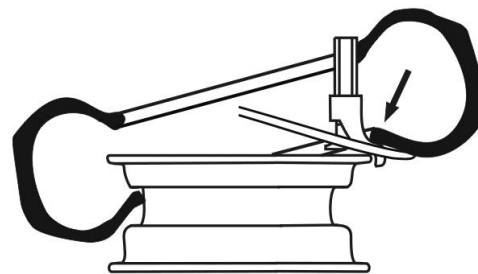
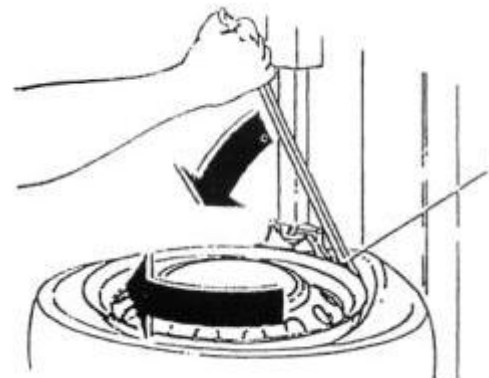

Fig. 12-1
Fig. 13
- * Place the wheel on the self-centering chuck, pressing lightly on the wheel. Press up the close control pedal(B) to lock it.
- * Turn down the lever(K) until the mounting head(H) touch the edge of the rim and locked it. Make sure the mounting head around 2-3mm apart from the rim, insert the crowbar into the tyre edge(Fig. 13) and let the tyre on the mounting head (I) .
- * Rotate the chuck pressing the pedal(A) until the bead is completely out of the rim.
- * Repeat the same operation to remove the second bead (Fig12-1).